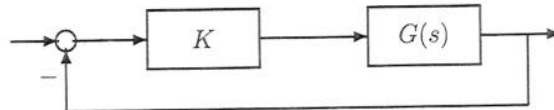

Figure 1.2
- (b) In Figure 1.2,  $G(s) = \frac{s-1}{s^2+1}$  and  $K$  is a variable gain.
- (c) Consider the feedback loop in Figure 1.2 with  $G(s) = \frac{4}{s-1}$ .